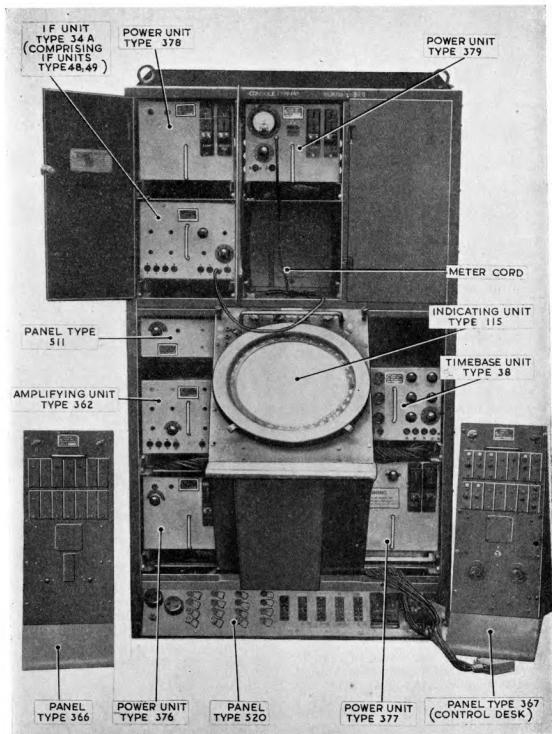

Fig. 29. Console No. 2 (Type 16)
- (1) Plan-position display of radar information.
- (2) Mk. 3G IFF display on the same CRT.
**97.** Console 2 (console Type 16) provides plan-position display of radar information (*fig. 29*).